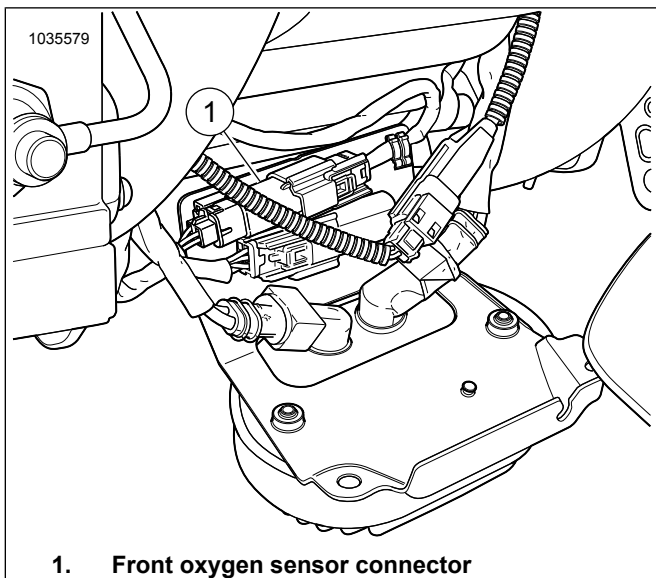

Figure 32. Front Oxygen Sensor Location
See Figure 32. Open front voltage regulator cover and disconnect front oxygen sensor connector (1). Remove connector housing from caddy.